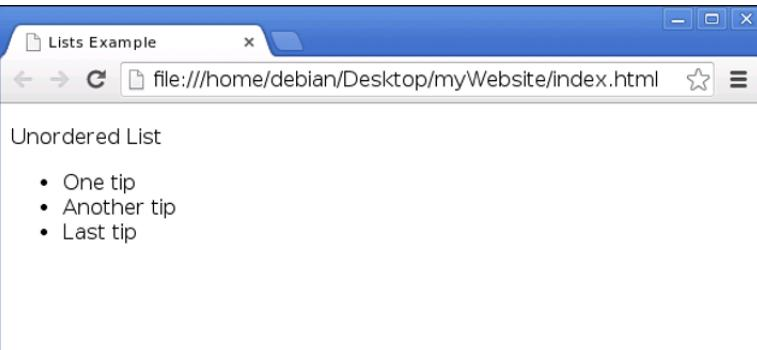

Figure 13-5:
- ✓ **Ordered lists:** You designate an ordered list with the `` and `` tags when the order of your items is important, as in step-by-step instructions. Each item in the list starts with a number or a letter (see Figure 13-5).